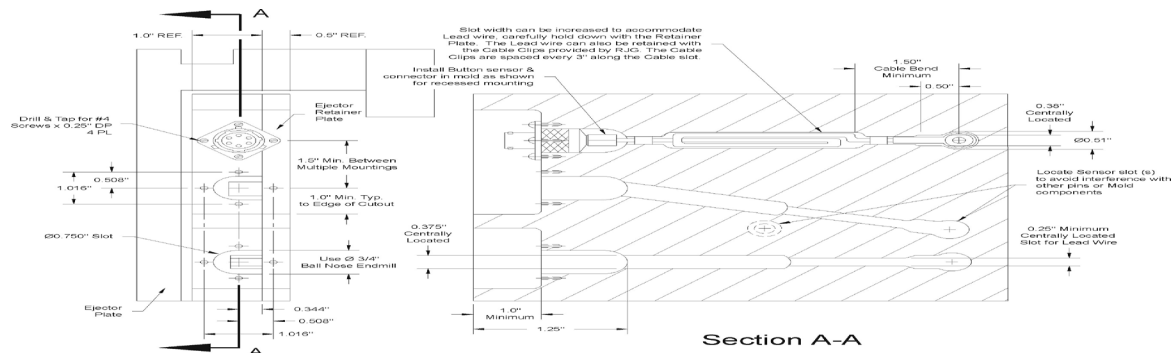

Figure 8: Recommended Mold Cutout for T-412, T-413, & T-414 Sensor
- a. Machine a 0.250" wide by 0.375" deep slot in the ejector plate for the cable and a 0.510" diameter pocket for the sensor head. The pocket must be centered under the selected ejector pin (See Figure 8).
- b. Counterbore the retainer plate to relieve the head of the ejector pin by 0.010" to eliminate a potential pre-load on the sensor when installed (See Figure 8).
- c. Counterbore the ejector plate by 0.020" to allow the head of the pin to clear the plate and only rest on the sensor when under pressure (See Figure 8).
Figure 8 shows the recommended mold cutout for installation of the T-412, T-413, and T-414.